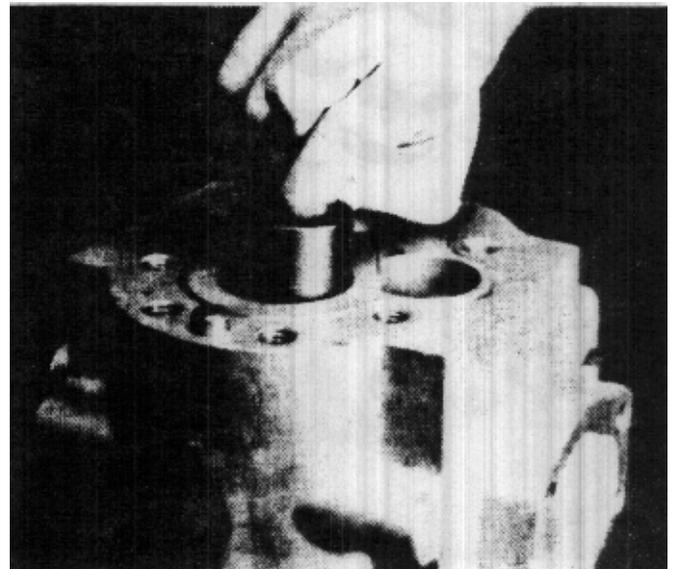

FIGURE 84
14. Remove the spline coupling (31). (Fig. 84)